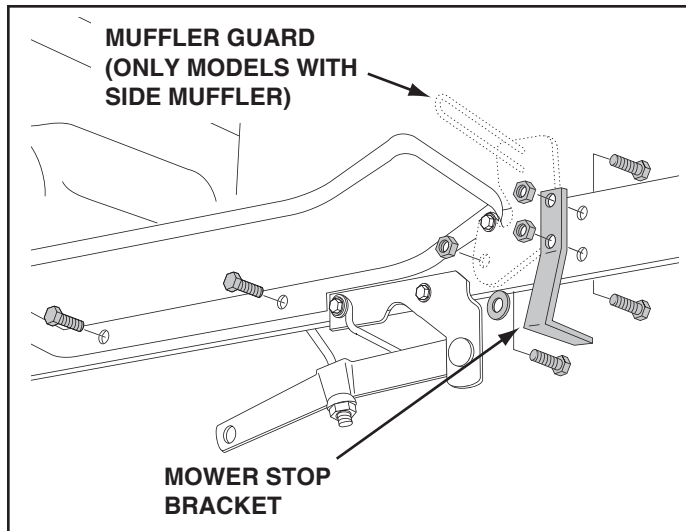

FIGURE 3 RIGHT SIDE VIEW
- Remove the mower stop bracket and its two bolts and nuts from the R.H. side of the tractor frame as shown in figure 3.
- If the tractor has a muffler guard at the front of the R.H. foot rest, remove the bottom bolt and nut, and the washer which is located between the guard and the tractor frame. See figure 3.
- Remove the two bolts from the bottom of both the R.H. and L.H. foot rests. See figure 3.
- Remove and store the mower stop bracket and bolt from both sides of the tractor frame. See figure 3.